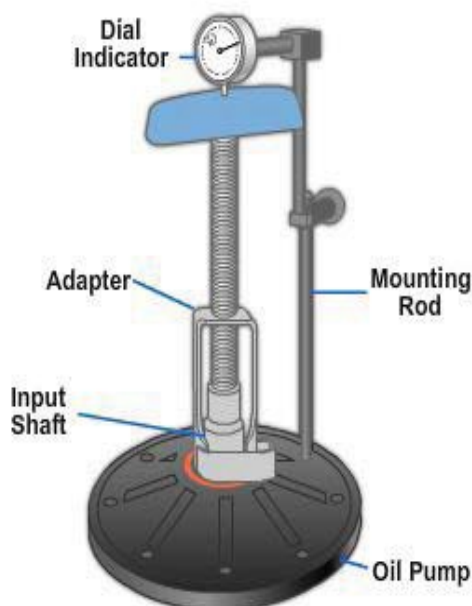
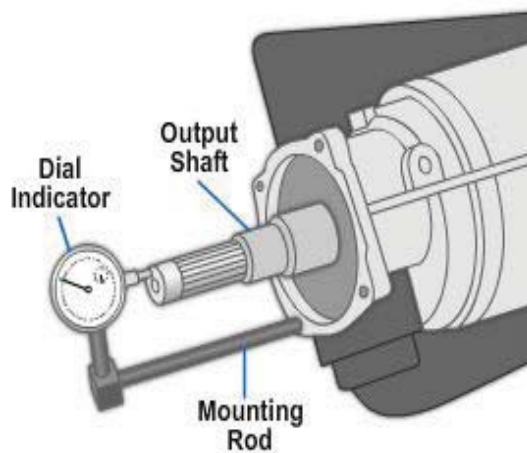

Figure 7-13 – Checking input shaft endplay.
Figure 7-14 – Checking output shaft endplay.
3. Check the input (*Figure 7-13*) and output (*Figure 7-14*) shaft endplay. This should be checked before disassembly and after reassembly. Record the endplay readings for later reference.